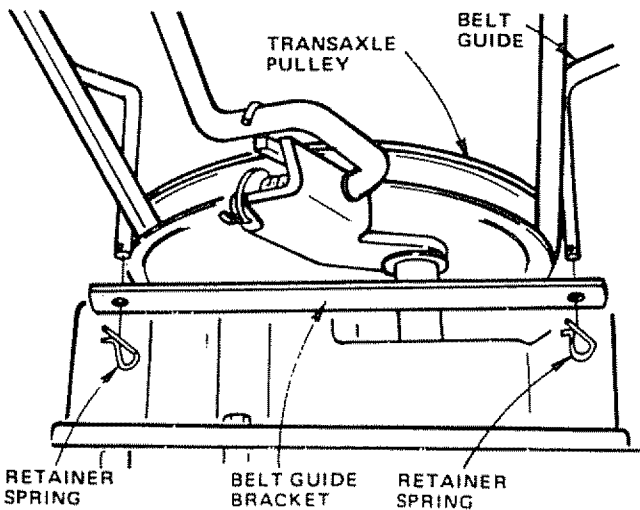

FIGURE 31
- b. Remove two retainer springs from belt guide bracket below transaxle pulley. Remove bracket (Fig 31).
- c. Swing belt guides away from belt, toward rear of tractor (Fig. 31)